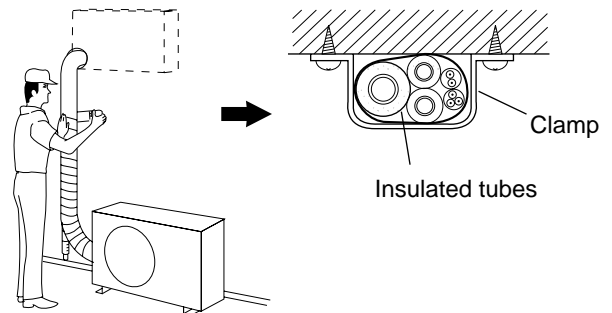

Fig. 50
- Wrap the armoring tape from the bottom of the outdoor unit to the top of the tubing where it enters the wall. As you wrap the tubing, overlap half of each previous tape turn. (Fig. 50)